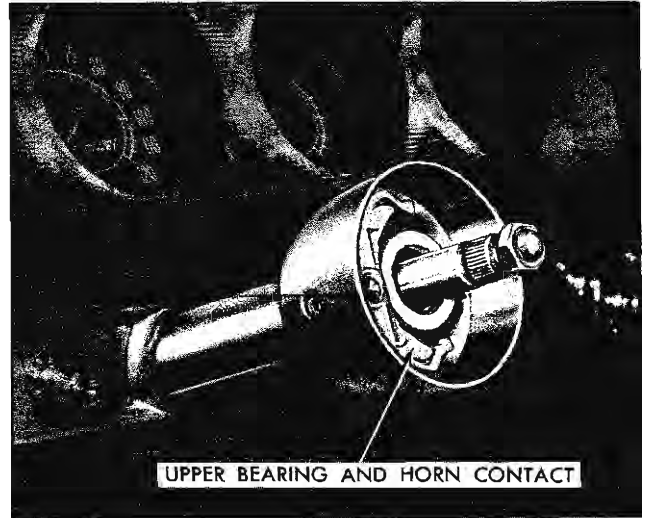

Fig. 9-10 Upper Steering Column Assembly
4. Remove upper steering column jacket bezel screws (Fig. 9-10) and upper steering column jacket clamp, located just under front edge of instrument panel.
4. Install upper bearing and horn contact (Fig. 9-10).
**NOTE:** Install steering column upper bearing prior to installing seal and collar (Fig. 9-10).